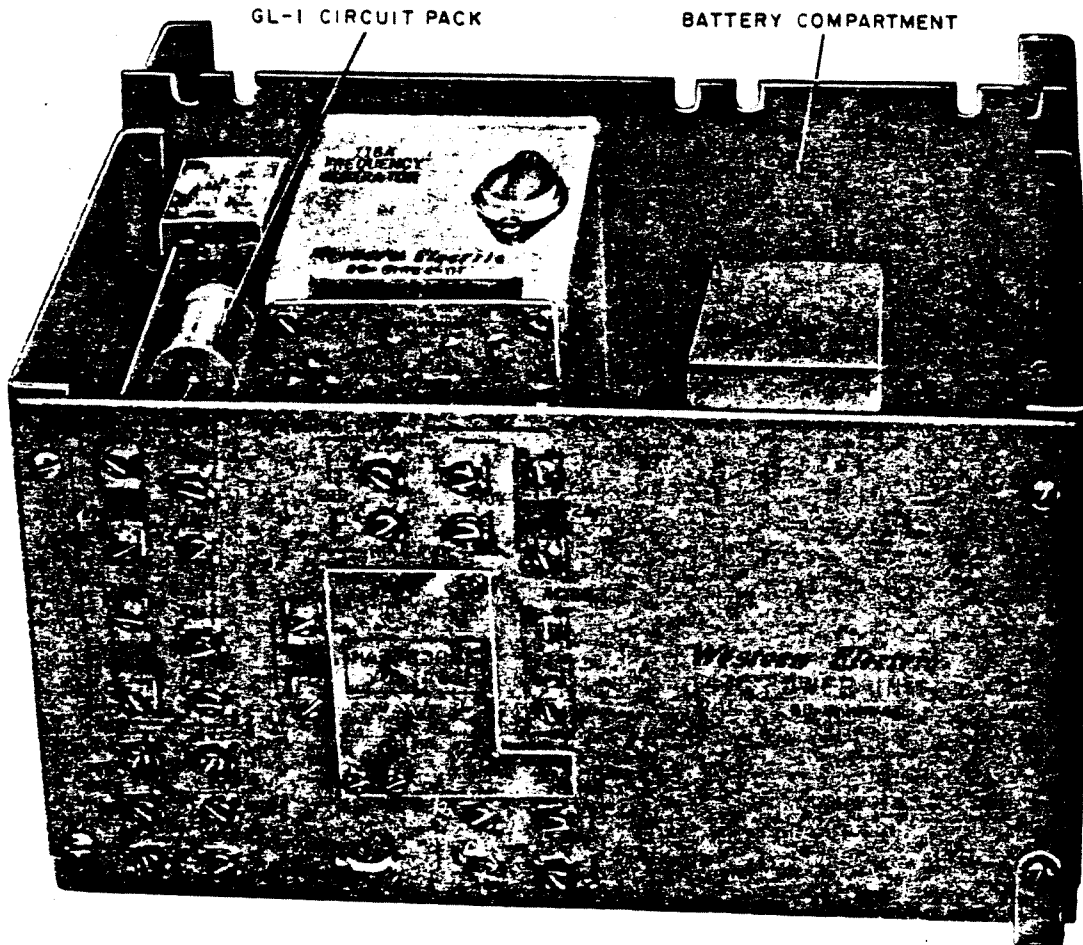

Fig. 1—47C Power Unit
**1.01** The 47C power unit (Fig. 1) provides emergency power to maintain talk and signal voltages, lamp voltages, and ringing voltage in key telephone systems during commercial power failures.
**3.08** Ensure that power unit is properly fused. See Table A and Fig. 1 for fusing.